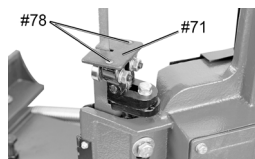

Fig. 11
4. Remove two Screws (#78) and remove the Horizontal Cutting Guard (#71 [Fig. 11]).
1. Remove the screws (#78) holding the Vertical Cutting Table (#134) in place (Fig. 11 and 12).